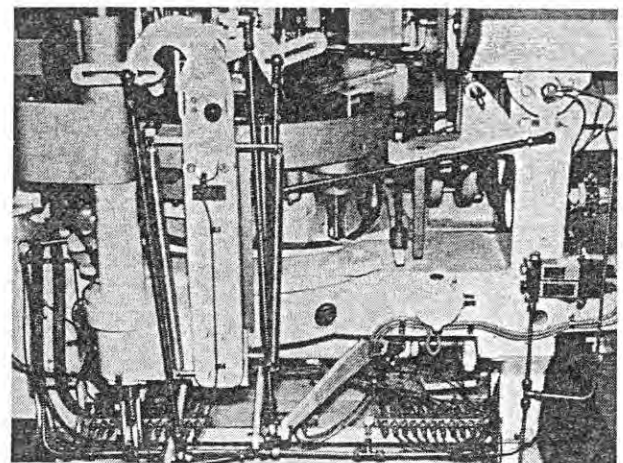

Fig. 85
4. Check whether all plastic lines of the central lubricating system or from the lubricating sledges have no bends and are connected properly (Figure 85). Take corrective action, if necessary.